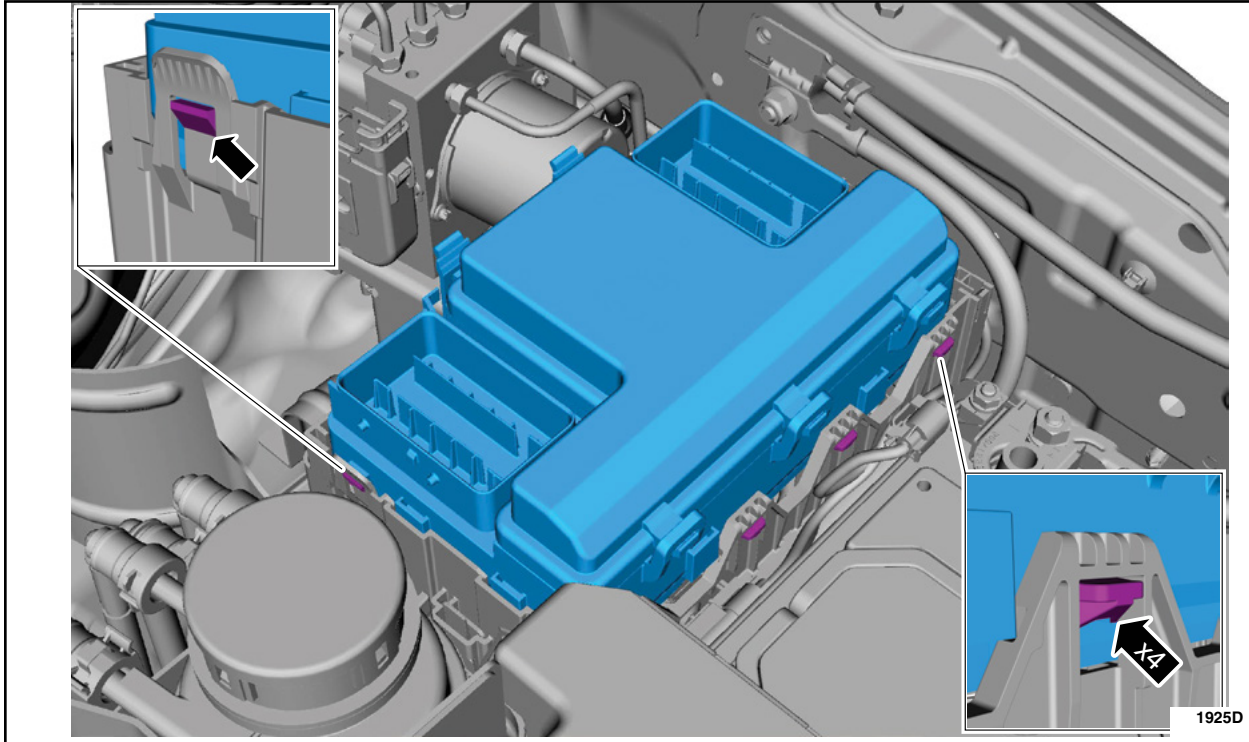

FIGURE 4
5. Release the latches and remove the battery junction box connector cover. See Figure 4.